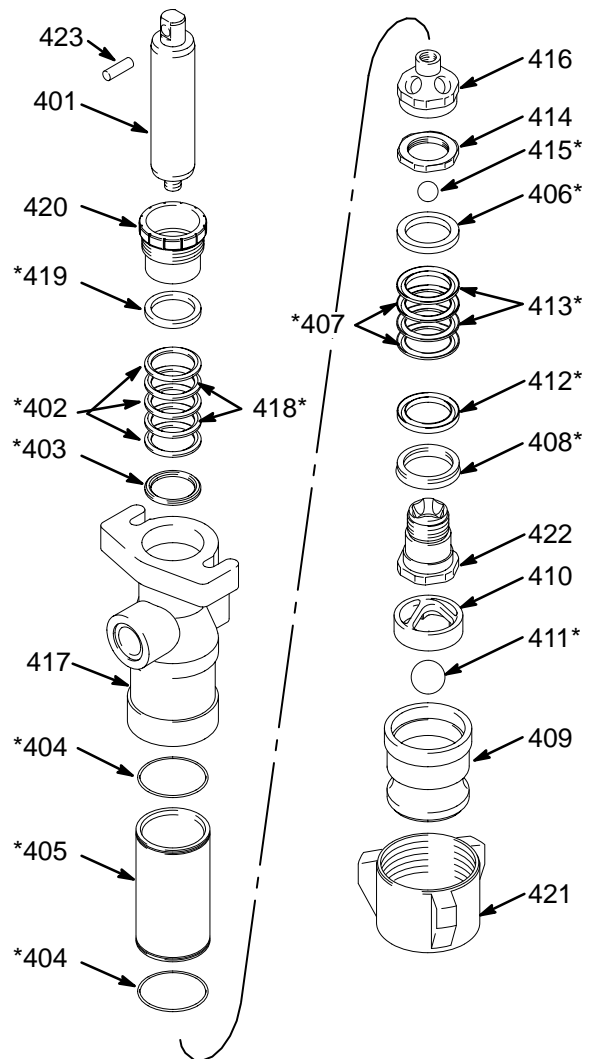

Fig. 15
- 2 Use a hard rubber mallet on the tabs of the lug nut (421) to loosen the foot valve housing (417).
- 3 Disassemble the pump, but do not disassemble the piston rod (401) from the piston housing (416) unless one of those needs to be replaced. Due to the high-strength Loctite® used at the joint of these two parts, the joint must be heated before disassembly. Refer to Fig. 15.